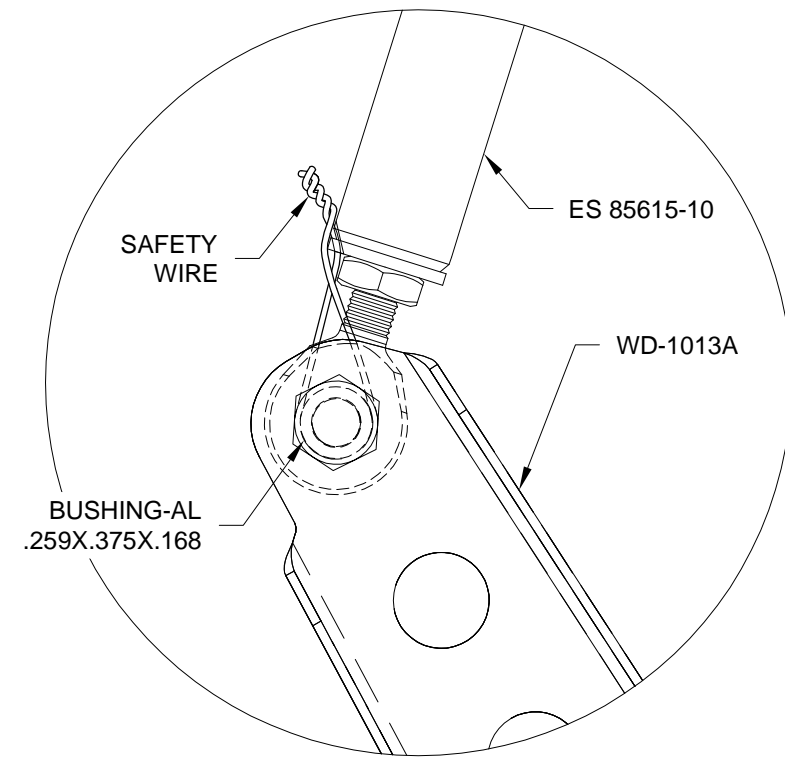

FIGURE 2: SAFETY WIRE LINEAR ACTUATOR
Step 2: Route safety wire through the .063[1.6 mm] hole in the ES 85615-10 Linear Actuator shaft, around the BUSHING-AL.259X.375X.168 and back to the actuator shaft, winding it securely as shown in Figure 2.